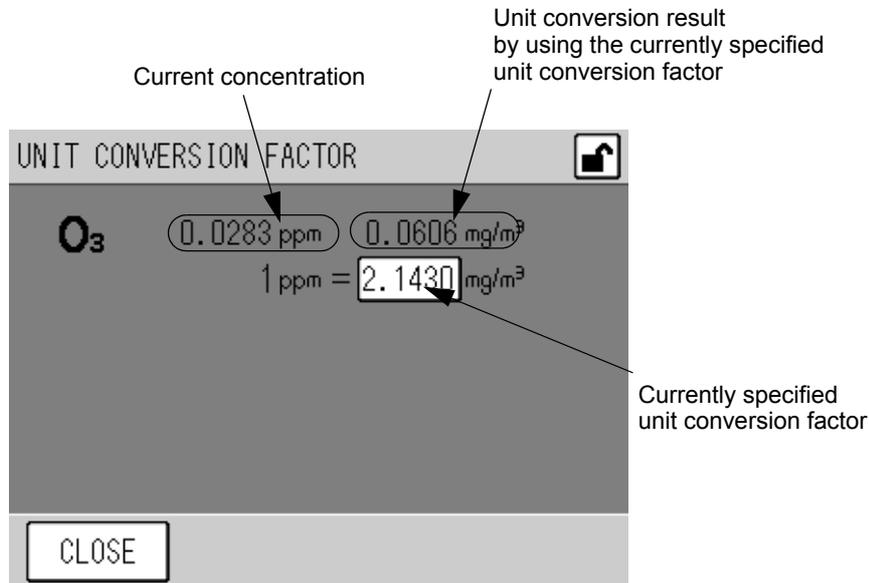

Fig. 73 UNIT CONVERSION FACTOR screen
- [UNIT CONVERSION FACTOR]: Displays the UNIT CONVERSION FACTOR screen (Fig. 73 on page 58).